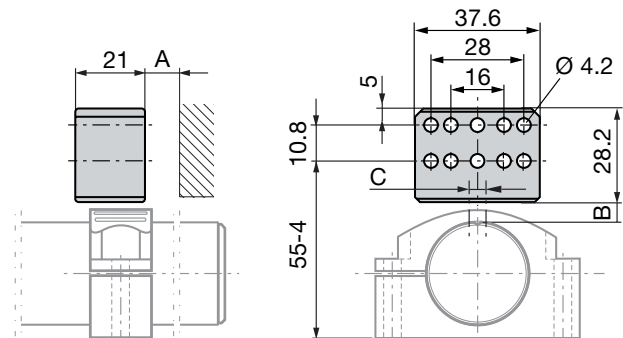
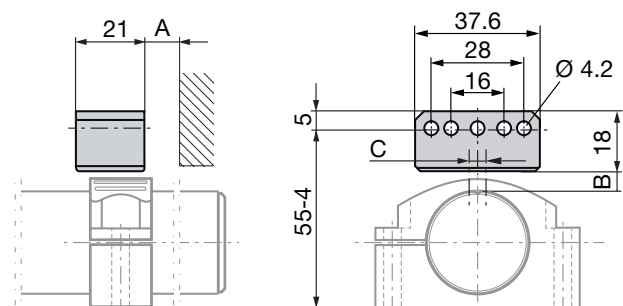

Fig. 5-1: Dimensions and spacing with magnet BTL6-A-3800-2
Fig. 5-2: Dimensions and spacing with magnet BTL6-A-3801-2
- Distance A between the magnet and parts made of magnetizable material must be kept to at least 10 mm (see Fig. 5-1 and Fig. 5-2).
- For distance B between the magnet and the BTL and for the center offset C (see Fig. 5-1 and Fig. 5-2) the following values must be maintained:
Tab. 5-1: Distance and offset for magnets (see Fig. 5-1 and Fig. 5-2)